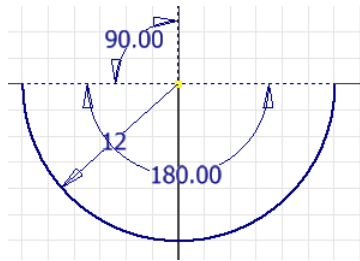

Figure 2-93 Sketch showing upper arc
4. Move the mouse cursor anticlockwise and enter **180** in the angle input field and press Enter; the upper arc is drawn, as shown in Figure 2-93.